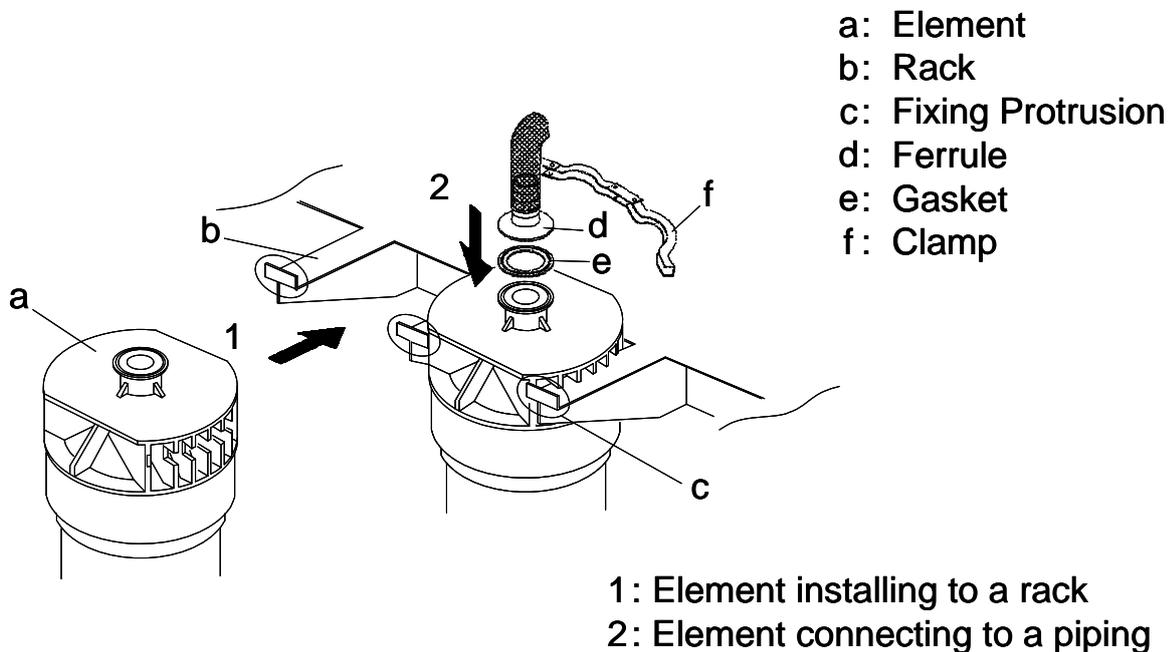

Fig. 6 Installation of Element in Membrane Rack
(3) Set the element vertically into a rack (see Fig. 6). Make sure that the element is installed vertically. Please contact us if you need the detail information of the rack.
(4) Connect a filtrate piping to a connection point of the element with a ferrule joint (see Fig. 6).